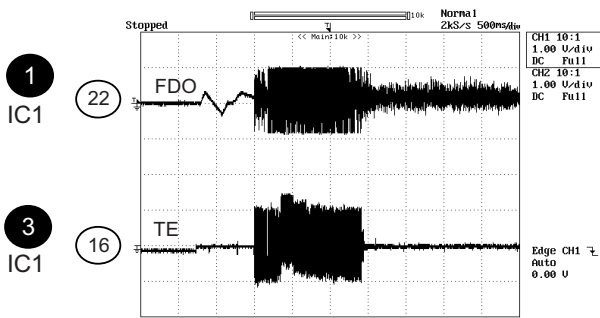

Figure 2
1. Is focus servo activated ? (Waveform drawing Figure 2)